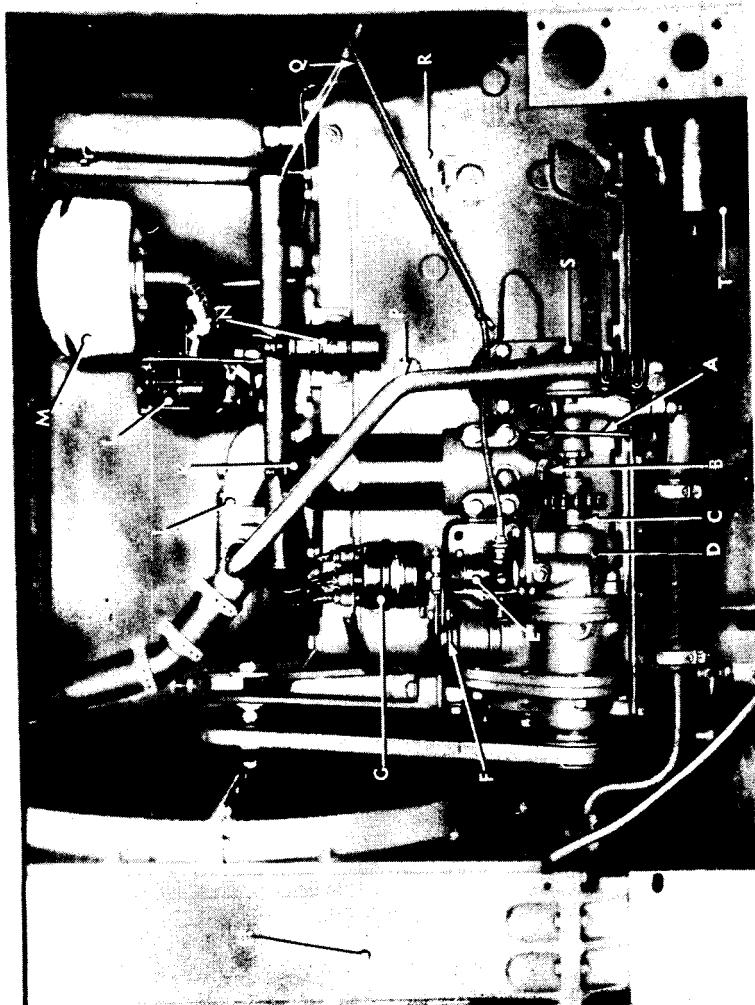

Figure 17—Engine—Left Side
(1) **WATER PUMP.** The water pump is attached to the left side of the engine block on the accessory drive (fig. 17).
(5) **OIL FILTER.** The oil filter is on the left side of the engine, above the accessory drive (fig. 17).
(12) **TACHOMETER DRIVE.** The tachometer drive is mounted on a flange above the accessory drive on the left side of the engine (fig. 17).
(13) **DISTRIBUTOR.** The distributor is mounted on the tachometer drive on the left side of engine (fig. 17).
(14) **IGNITION COIL.** The ignition coil is mounted on a bracket held down by an engine cylinder cap screw head on the left side of engine (fig. 17).
(15) **STARTING MOTOR.** The starting motor is at the left of the engine block mounted on the bell housing (fig. 17).